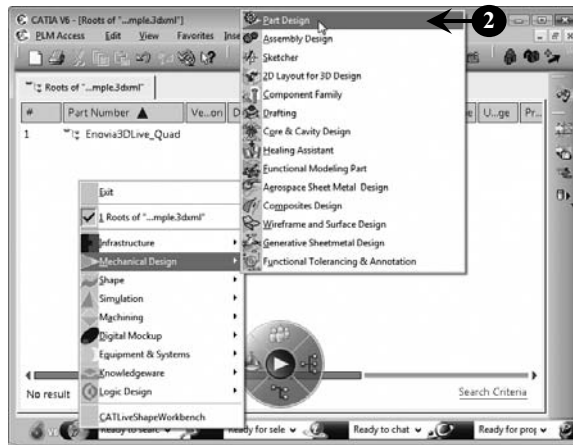

FIGURE 1.29
1. *Open* CATIA V6 (**Figure 1.29**). The **Sample.3dxml** file opens, by default.
2. *Select* **Start>Mechanical Design>Part Design** on the CATIA V6 user interface to start the Part Design workbench, as shown in Figure 1.29: